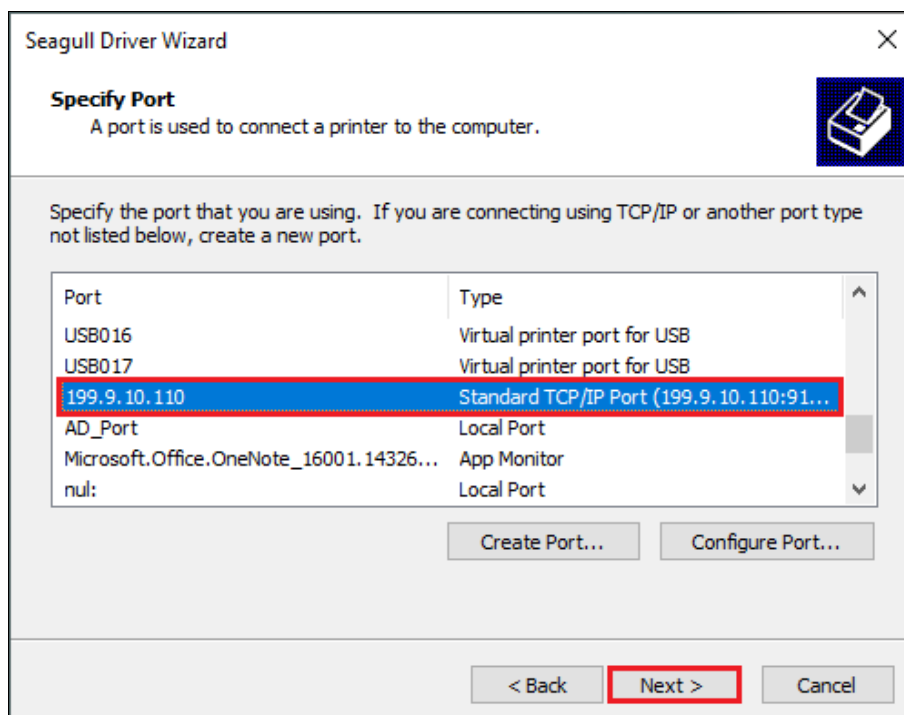

Figure 2-46 Specify Port Screen
- Return to the “Specify Port” screen, select the TCP/IP Port that has been added, and click “Next”, as shown in Figure 2-46.